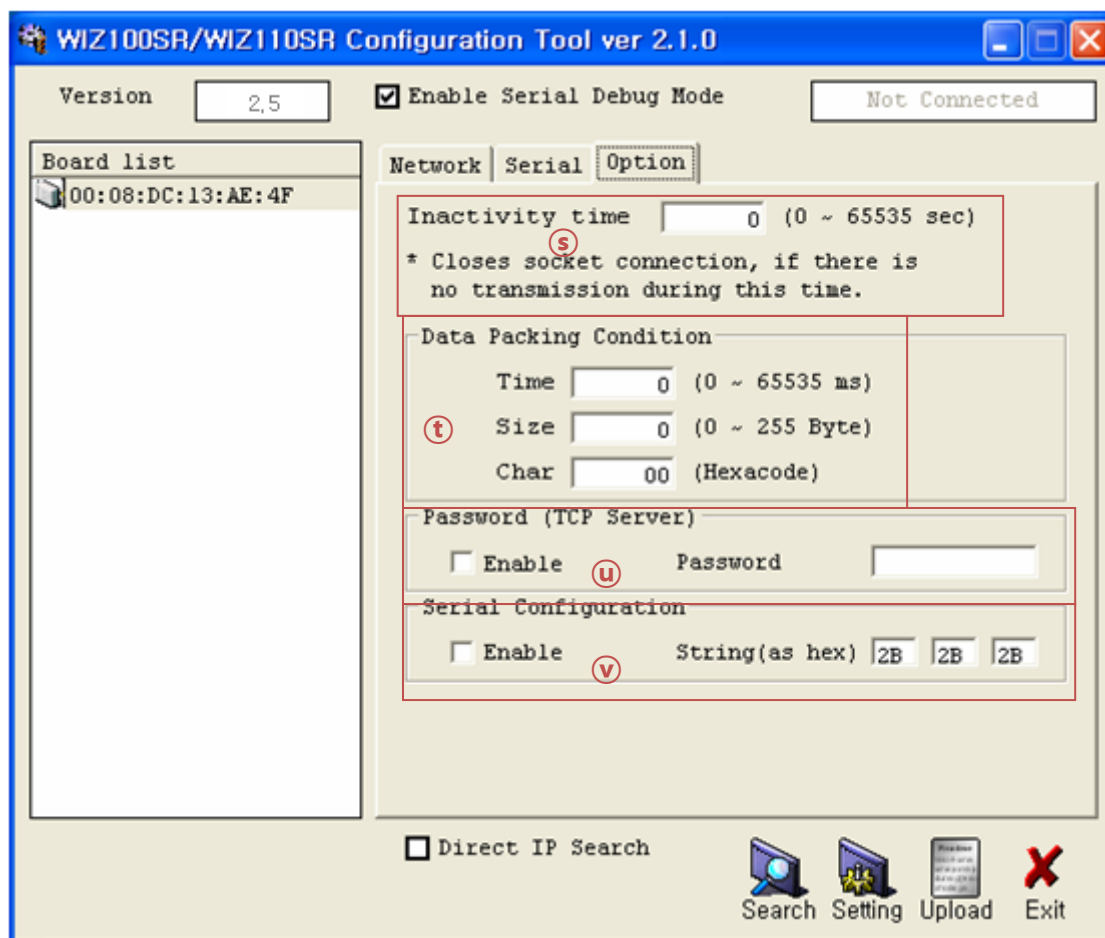

Figure 10. Configuration Tool (Option Config.)
3. As shown in Figure 10, select Option tab and check 'Enable' combo box of "Password" menu.
⑤Serial Configuration:
- ① Select a module shown in "Board list", and click "Upload" button.
- 👉 Before uploading through Ethernet, you should set the network information of WIZ100SR first by Configuration Tool program as shown above Fig 10. By using Ping test, you can check if network is correctly configured.
- ② When the window as shown below Figure is displayed, select file for upload and click "Open" button.